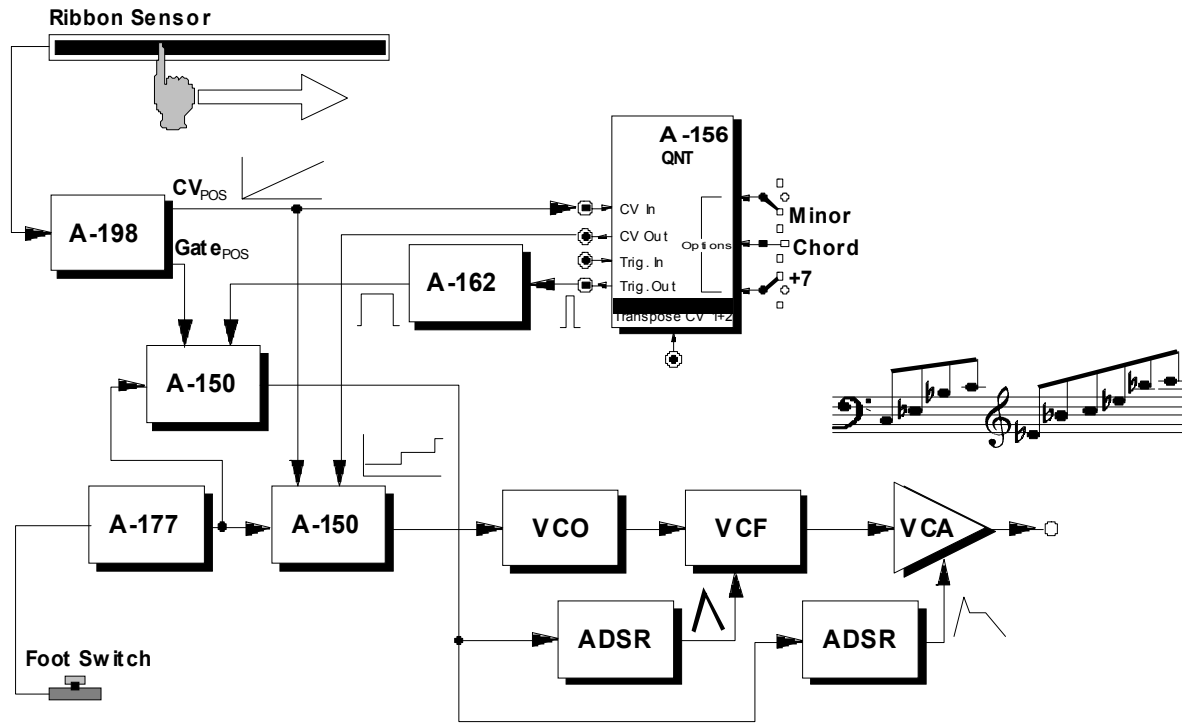

Fig. 4: A-198 as a "keyboard"
The patch of fig. 4 shows the application of the A-198 as a "keyboard". A foot switch in combination with the A-177 is used to select between quantized and non
- Feeding a keyboard or sequencer pitch control voltage to the transpose input of the quantizer (see fig. 4) transposes the sounds played on the A-198.